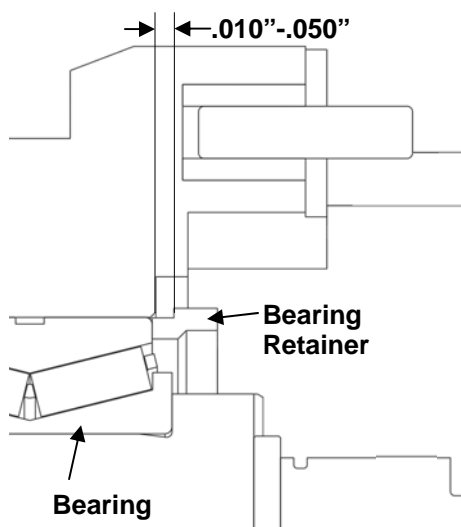
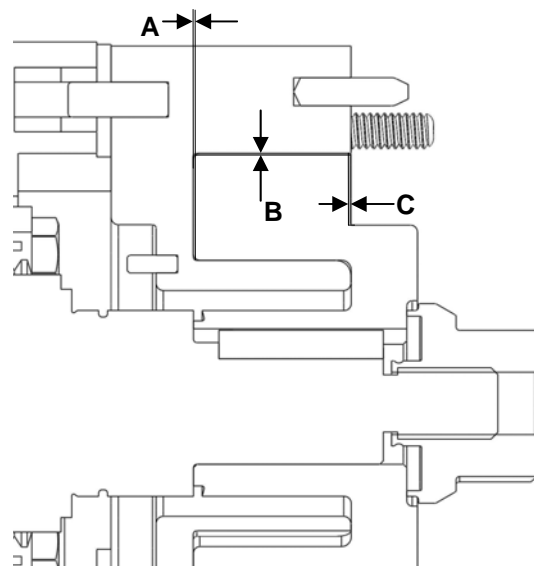

Figure 40: Bearing Retainer Clearance
Figure 41: Important Clearances
5) Once the shafts are pressed into the gear case, install the bearing retainers to hold the shafts in place temporarily (do not install liquid sealant). Ensure there is proper clearance between the retainer and the gear case, as seen in Figure 40. Place the body on the gear case, making sure it is seated correctly. Assemble the rotors into the body and tighten down using the rotor nuts. Measure dimensions A, B, and C seen in Figure 41 and refer to Table 8 (page 28) to verify the clearances. If clearances are not correct, the shafts must be removed and the shims will need to be adjusted. If the clearances are correct, remove the rotors and body.